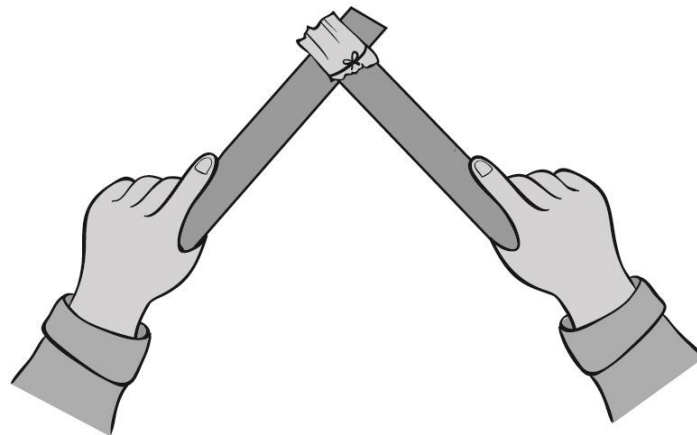

Figure 2
1. Wrap the small woolen cloth around the end of the PVC plastic strip or the glass rod. Secure it tightly with the silk thread (see Figure 2).
4. Rub the woolen cloth along the length of a strip of PVC plastic (see Figure 2).